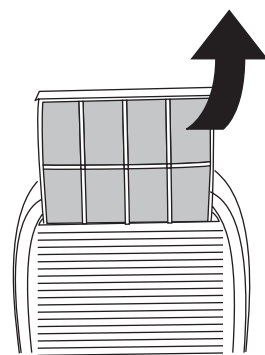

fig. 6
- To remove the air filter, pull it out (Fig. 6).